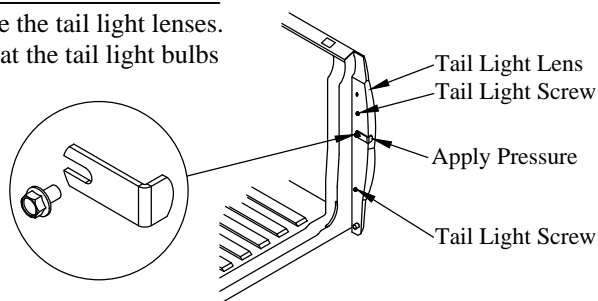

Figure 7: Tail light modification detail.
1. **Remove** four (4) factory tail light screws, two (2) per side (Figure 7).
2. **Remove** tail light lenses (Figure 7).
5. **Install** M8 x 1.25 x 12 bolts and tail light clips (supplied) in the tailgate cable catch bolt locations (Figure 7).
6. **Apply** pressure to the tail light and clip from the rear while tightening the bolt (Figure 7).